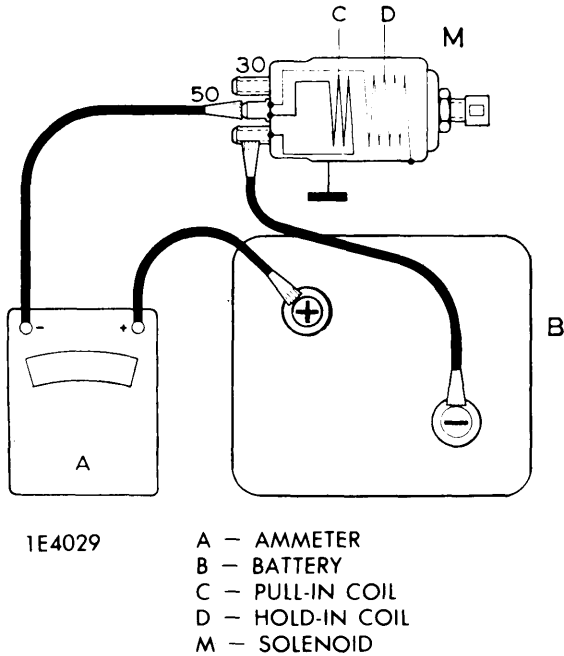

Fig. 1 Jumper Connections for Pull-In Test
**Pull-In Coil** - Connect jumper wires between a 12 volt battery and the solenoid as shown in Figure 1. **NOTE** - A quick touch of the jumper to terminal 50 is all that is necessary. The armature should pull-in suddenly and return when electrical connection is broken.